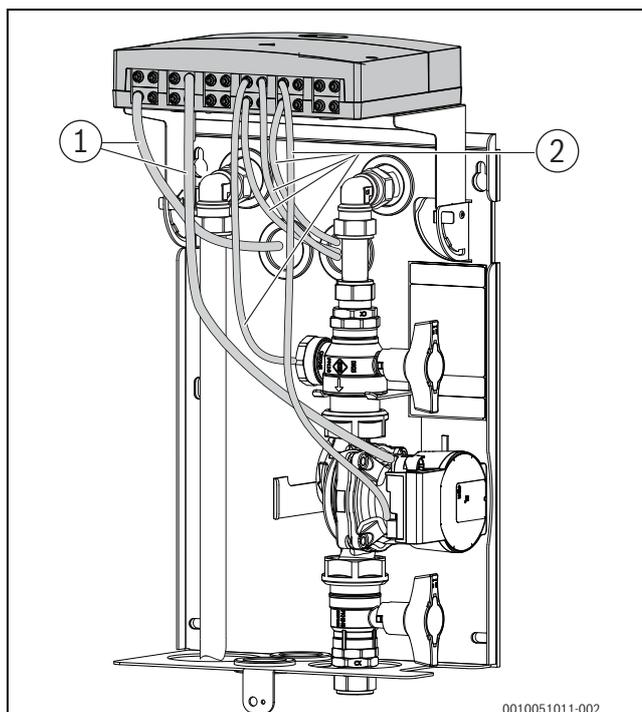

Fig. 25 Route cables through the wall at the rear (thermal insulation not shown, hydraulic pipework according to option 1)
- ▶ Route the electrical power cables through the sealing grommets in the back panel of the enclosure and the wall holes (→ Fig. 25).